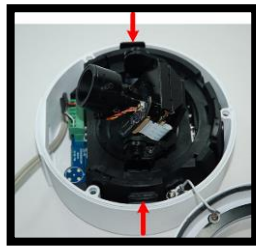

Figure 3
4. Press the snap-on sides of the camera (figure 3) and detach it from the dome housing.